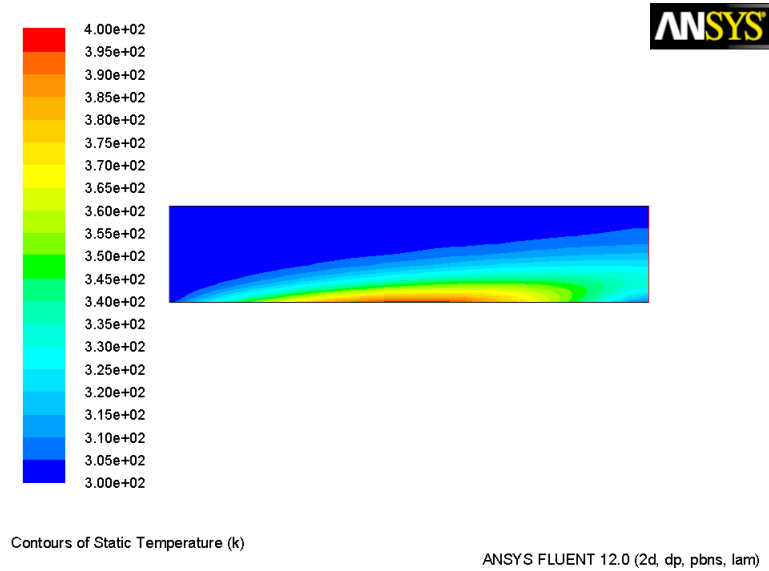

Figure 4: Contours of Static Temperature
3. Click Display (see Figure 4).
The contour plot in Figure 4 shows that the temperature on the wall and in the fluid reaches a peak at the center of the channel due to the peak in the prescribed wall temperature.